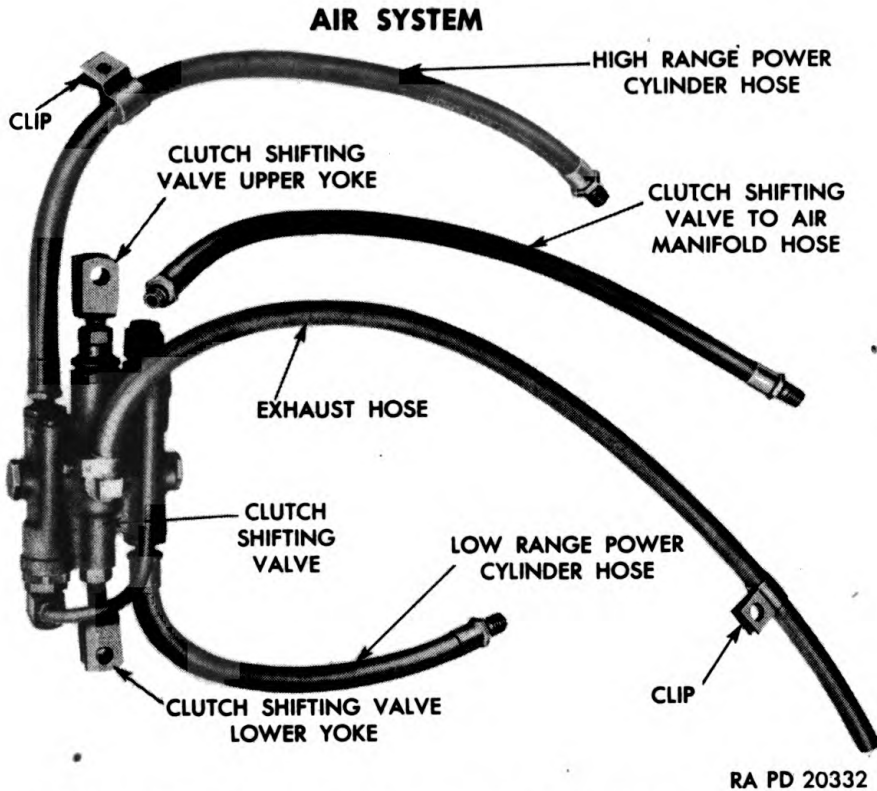

Figure 208 — Clutch Shifting Valve with Connecting Air Hoses
a. **Description** (figs. 208 and 209). This is a follow-up type valve which is connected into, and is part of, the linkage between clutch pedals and clutch shifting lever. It is located directly in back of clutch selector unit below driver's seat. The valve controls the application of compressed air from air reservoir tanks to clutch power cylinders which operate clutch. In case of air failure, the valve serves as a mechanical link in the controls for shifting clutch manually. A single valve body contains the valve actuating mechanism, also two
(1) **REMOVE HOSES** (fig. 208). Clamp valve in vise, and remove both low-range and high-range power cylinder hoses. Remove exhaust hose from exhaust hose elbow, and unscrew elbow from side of valve.
(9) **INSTALL HOSES** (fig. 208). Clamp valve in vise, and install low-range and high-range power cylinder hoses to outlet plugs. Attach exhaust hose elbow to threaded exhaust port at side of valve.